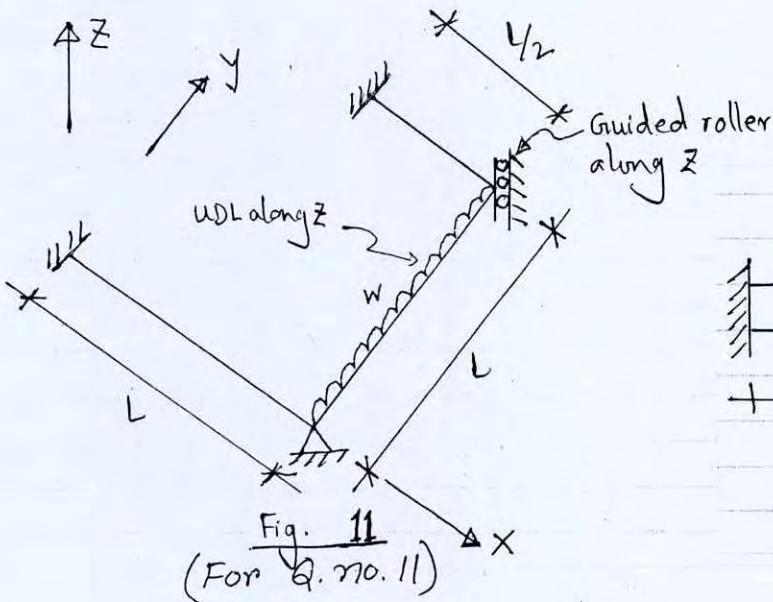

Fig. 11
11. Determine the stiffness equation in matrix form for the plane grid shown in Fig. 11. Consider torsion. Assume: E, I, J, G as constant. The members have circular cross-section. (21)